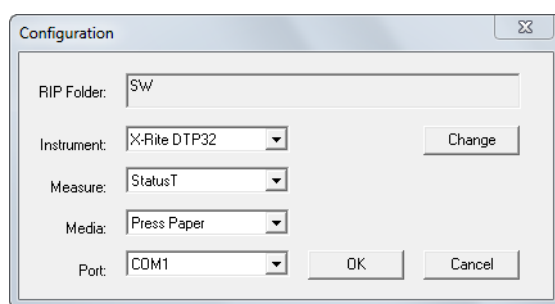

Figure C.1 Configuration dialog box
1. Choose **File > Configure** to display the Configuration dialog box, as shown in Figure C.1.
The default is the relative path to the **SW** folder of the the RIP with which Genlin is supplied (as shown in Figure C.1).